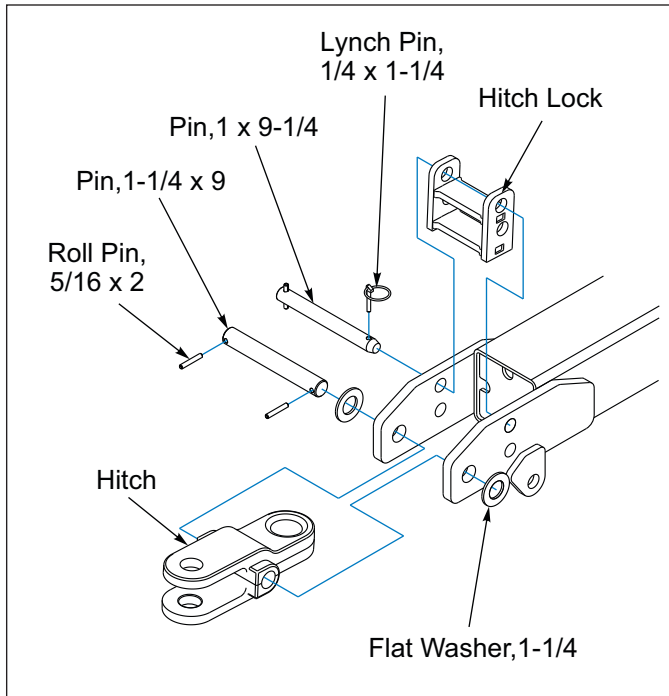

Figure 3-2: Clevis Position
- **Clevis position:** Insert the spade end of the hitch into the Hitch Lock opening. Secure the Hitch Lock with 1 x 9-1/4 Pin and 1/4 x 1-1/4 Lynch Pin. **See Figure 3-2.**